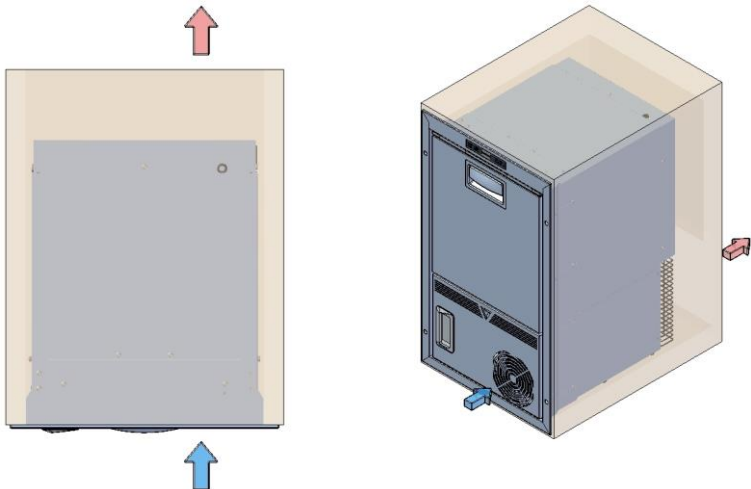

Figure 1b
- For recess situations with surfaces in contact with the upper and lower parts of the appliance, make the ventilation openings at the top and bottom of the appliance as indicated in fig.1b.